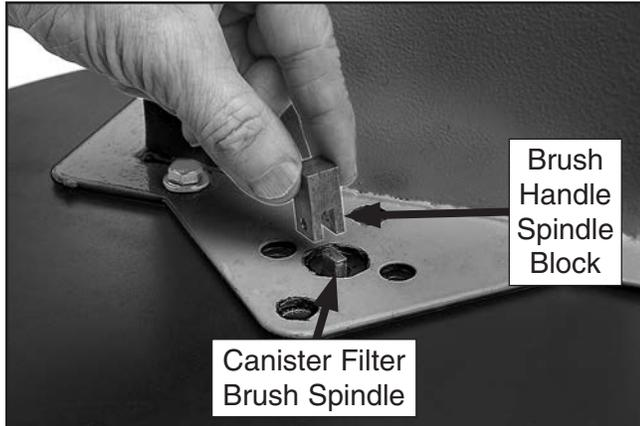

Figure 65. Removing brush spindle block from canister filter brush spindle.
4. Remove brush handle spindle block from canister filter brush spindle, as shown in **Figure 65**.